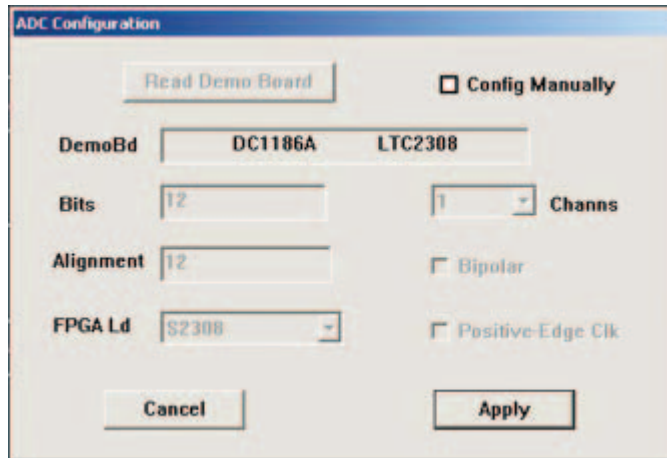

Figure 3. User Configure Menu
- Select Configure Manually, 12-Bits, Alignment 12, S2308, 1-Channel and do not check Positive\_Edge Clk. Check Bipolar if the JP5 UNI jumper is set to GND. An example of the user configure menu is shown in Figure 3.